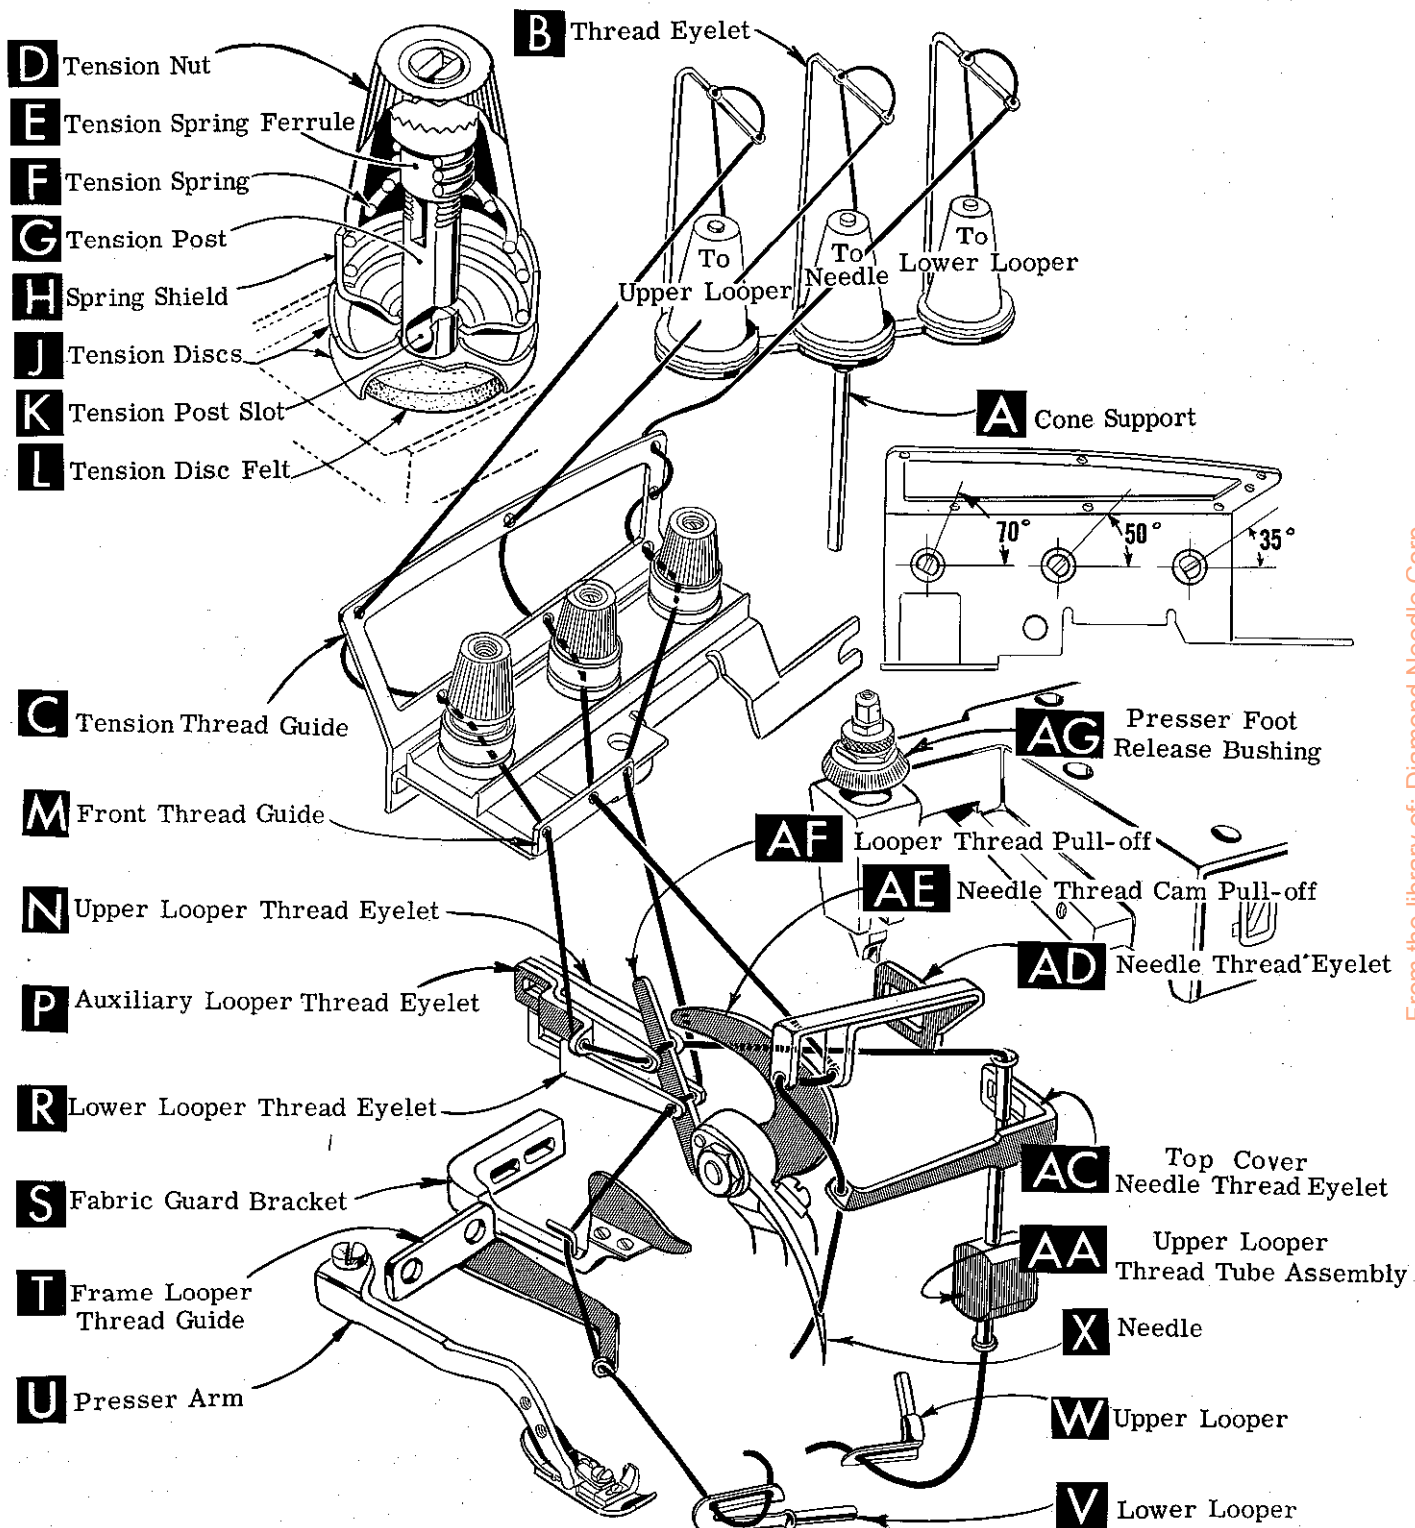

Fig. 1
Release pressure on presser foot by turning presser foot release bushing (AG) Fig. 1) and swing presser arm (U) out of position. Turn handwheel in operating direction until needle is at its lowest point of travel. Using hexagonal socket wrench No. 21388 AU, furnished with machine, loosen needle clamp nut about 1/4 turn. Again turn handwheel until needle is at high position; withdraw needle.
After thread comes from cones on cone support (A, Fig. 1), it is brought up through back hole of thread eyelet (B), then down through the front hole of thread eyelet. Next it is threaded through the upper holes of tension thread guide (C) from front to back and then through the lower holes from back to front. It should be noted that the lower looper thread is threaded through the tension thread guide (C), first through the upper hole back to front, second through the middle hole front to back and third through the lower hole back to front. All threads then continue between the tension discs (J), through tension post slot (K) in tension post (G) and on through front thread guide (M).
Only parts involved in threading are shown in threading diagram (Fig. 1). Parts are placed in their relative positions for clarity.
Double end of thread and lead it through both eyes of lower looper thread eyelet (R, Fig. 1) from right to left. Note: thread must pass in front of looper thread pull-off (AF). Lead thread behind fabric guard (S) and through eyelet hole of frame looper thread guide (T). Turn handwheel in operating direction until heel of lower looper (V) is all the way to the left; then thread through both eyes from left to right. Left eye of lower looper can be threaded easily if tweezers are in left hand.
Turn handwheel in operating direction until needle (X, Fig. 1) is at its highest position. Insert needle thread from right to left, through both eyes of needle thread eyelet (AD), under neck of top cover casting; then down through hole in top cover needle thread eyelet (AC). Thread needle from front.
The amount of tension of needle and looper threads is regulated by three knurled tension nuts (D, Fig. 1). Tension on threads should be only enough to secure proper stitch formation.
Be sure machine is threaded according to threading diagram (Fig. 1, page 6 ). With thread tensions light, set looper thread eyelets (N and R) about horizontal and in the middle of their front to back locations. Operate machine slowly, without presser foot in place, to make sure that chain forms and moves off the tongue freely. Swing presser foot into position, insert material, and sew slowly.
While sewing on material, check needle thread control as follows: Usually all needle thread is drawn on needle down stroke. At top of needle stroke, thread should be just tight enough to feed chain off stitch tongue. Stitch tends to pull down slightly if excessive thread is pulled on the up stroke. With needle at bottom of stroke, position needle thread eyelet (AD, Fig. 1) so that needle thread cam pull-off (AE) just contacts needle thread.
With material under presser foot, set lower looper thread eyelet (R, Fig. 1) back far enough so thread is a little slack when looper thread pull-off (AF) reaches its most rearward position. Looper thread pull-off (AF) is set about 1/8 inch distance behind needle thread cam pull-off (AE). Frame looper thread guide (T) should be set with its eyelet approximately 1/8 inch to right of lower looper (V) heel eyelet at the time lower looper is at extreme left end of its travel.
Before proceeding to adjust upper looper thread eyelet (N, Fig. 1) balance all three tensions to give a normal appearing stitch. Moderate change in these tensions will not markedly effect the purl.
To move the purl more under the edge, both looper thread eyelets (N and R, Fig. 1) should be raised, keeping the same amount of pull-off. Usually it is better to have slightly more pull-off upper thread than on lower thread.